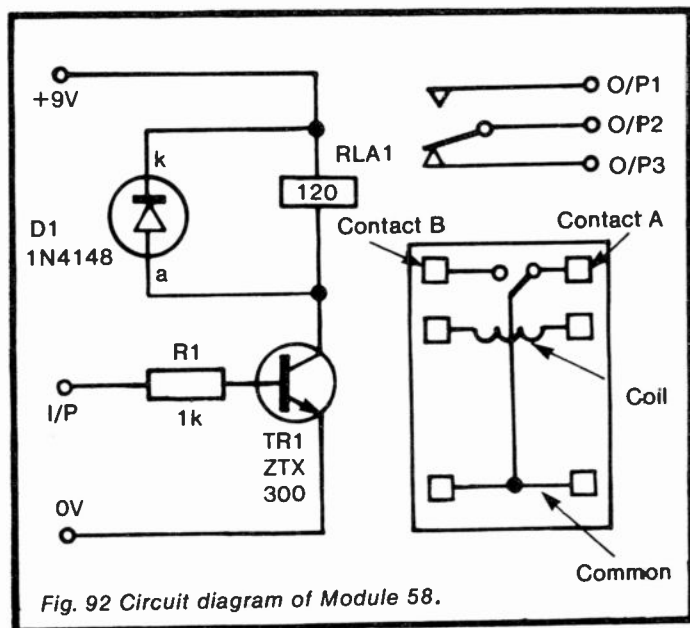

Fig. 92 Circuit diagram of Module 58.
*Circuit diagram:* see Figure 92.